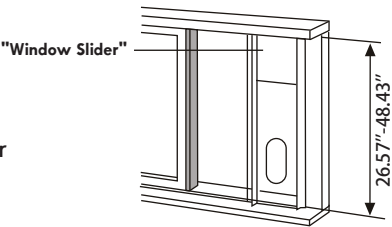
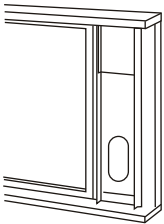

Fig.13
Fig.14
- 2. Place the window slider onto the adhesive foam seal (see Fig. 13). Adjust window slider height according to the instructions on page 8.
- 3. Cut another length of adhesive foam seal and attach it to the window sash (see Fig. 13). Close the window sash securely onto the window slider (see Fig. 14).